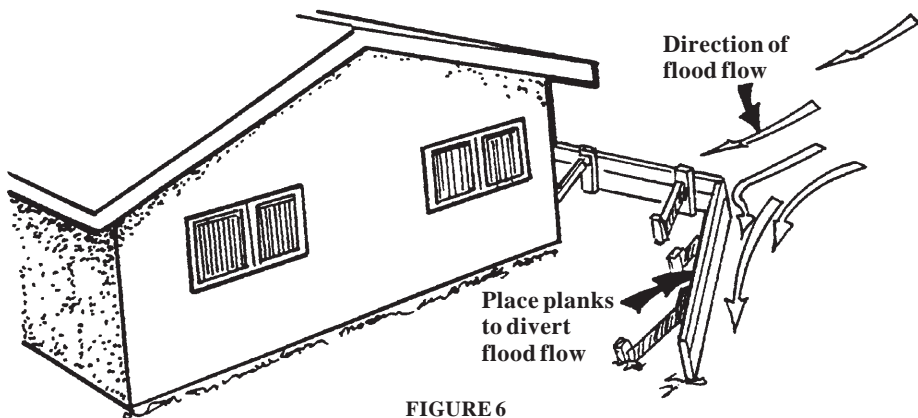

FIGURE 6
4. Set stakes in solid soil, as in Figure 6, to guide water around home.